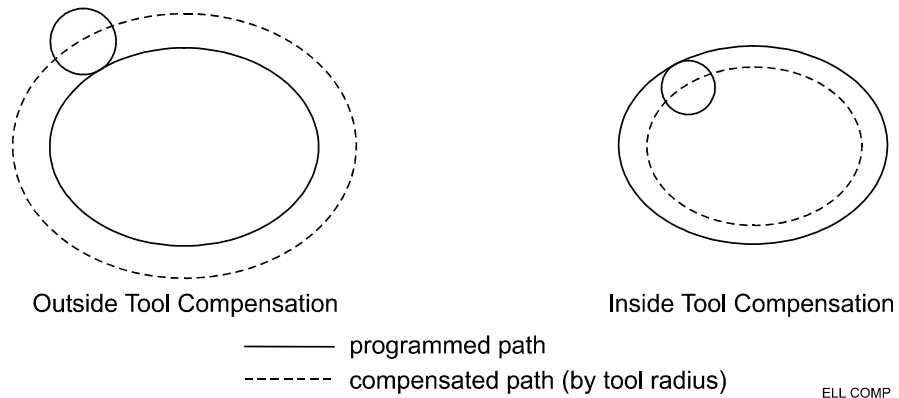

Figure 4-31, Ellipse Tool Compensation
- CompSide** Offsets tool path to the inside (**In**) or outside (**Out**) of the ellipse by the tool radius. Refer to **Figure 4-31**. If you leave the entry blank, no tool compensation is activated during the cycle. Optional.